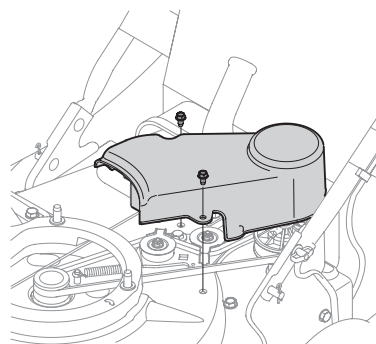

Figure 16
4. If equipped with a drive control, remove the three self-tapping screws securing the belt cover and remove belt cover. See Figure 16.